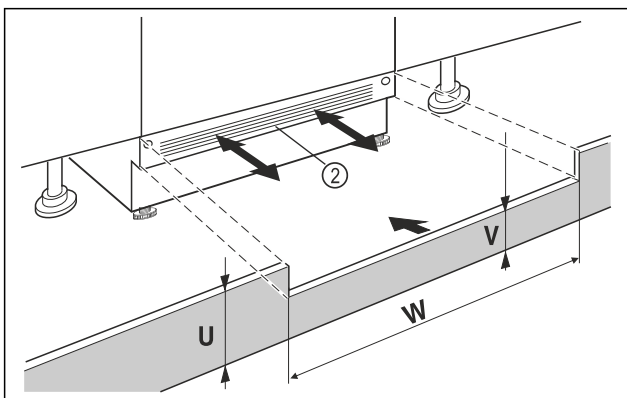

Fig. 12 Example illustration
- ▶ Put on the appliance base cover Fig. 12 (2) but do not fix it in place yet.
- ▶ If the base panel is visible Fig. 12 (2), pull it forwards so that the front edge of the ventilation grille and the unit base panel are level.
- ▶ If the base panel is concealed Fig. 12 (2), push it all the way back.
- ▶ Ensure that the ventilation slots are completely free: If necessary, cut the height of the unit base panel Fig. 12 (U) to size!
- ▷ Adjust the web height Fig. 12 (V) under the appliance base panel Fig. 12 (2) along the niche width Fig. 12 (W).